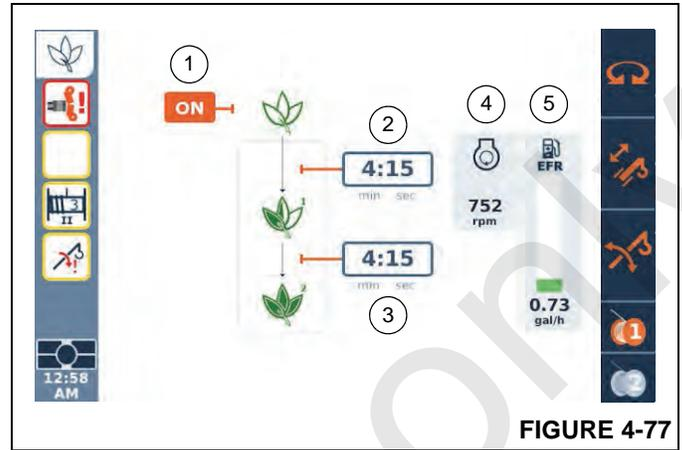
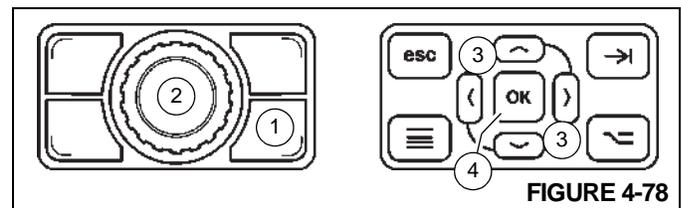

FIGURE 4-77
FIGURE 4-78
The ECO Mode function screen (Figure 4-77) allows the operator to set the ECO Mode function to on or off. The function screen also allows the operator to specify the lengths of time of crane function inactivity before the crane's engine speed is reduced from the working engine speed to the two idle speeds.
The ON/OFF icon (1, Figure 4-77) is used to set the ECO Mode function to on or off.
- Engine speed will automatically decrease to the idle speed of 950 rpm after all craning functions have stopped (controllers in neutral position) and the time period that was specified in the Idle Speed 1 Time Delay Setting (2, Figure 4-77) has past.
- Engine speed will automatically decrease to the idle speed of 800 rpm after all craning functions are disabled and the time period that was specified in the Idle Speed 2 Time Delay Setting (3, Figure 4-77) has past.
1. Press the Screen Toggle Button (1, Figure 4-78) at the Jog Dial to select the ODM screen control. Using the Jog Dial (2, Figure 4-78), select one of the time delay number fields (box around number will turn orange, Figure 4-77), then press the Jog Dial (2) (number will turn white with orange background).
Using the Arrow Buttons (3, Figure 4-78) on the Navigation Control Pad at the ODM, select one of the time delay number fields (box around number will turn orange, Figure 4-77), then press the OK Button (4) (number will turn white with orange background).